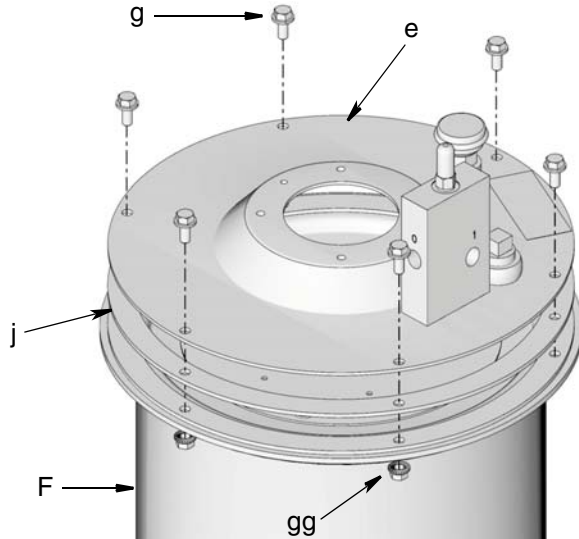

FIG. 9
- Install cover (e) over gasket (j) on reservoir (F) (FIG. 9).